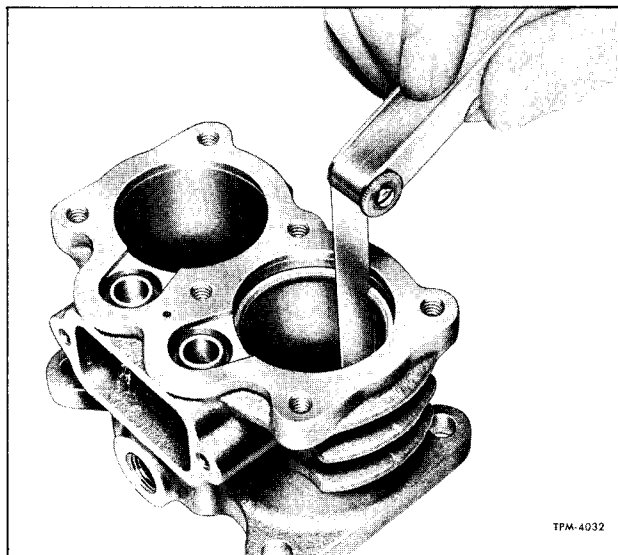
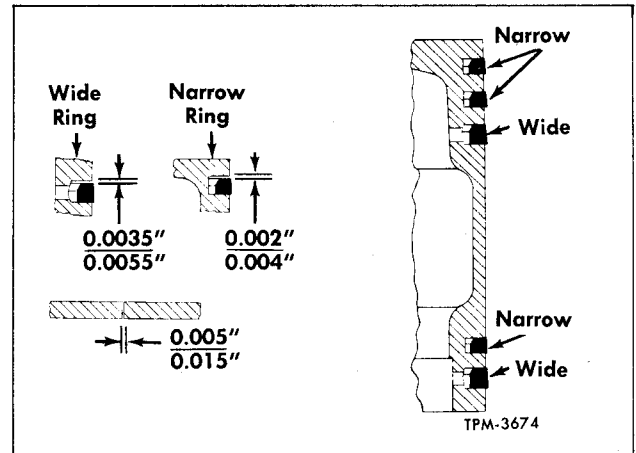

Figure 11—Measuring Piston Ring Gap
Figure 12—Piston Ring Arrangement and Clearances
9. Piston Rings (Fig. 11). Check fit of piston rings in ring grooves, and check ring gap with ring in cylinder bore. Clearance between rings and sides of ring grooves should be from 0.0035" to 0.0055" for two wide rings and from 0.002" to 0.004" for three narrow rings as shown in figure 12. Ring gap should be from 0.005" to 0.015".
1. Position connecting rod (17) in piston (13) and press piston pin (14) into piston with lock wire holes in pin aligned with lock wire holes in piston.
2. Install new piston pin lock wire (15) in piston pin so that long end extends through piston and pin. Snap short end into lock wire hole at bottom of piston skirt.
3. Install piston rings (12) in grooves of pistons. Rings must be installed in proper location and with pip marks upward. Refer to figure 12 for proper clearance dimensions and location of rings. Stagger position of ring gaps outside of inlet throat area.
4. Press bearing inserts (19) into rod and cap (20) by hand, with locking slots in proper alignment (all slots on side of same cap bolt).